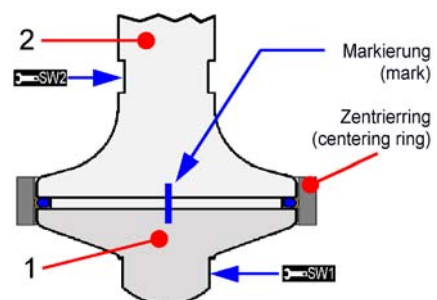

Fig. 5
- Screw together piston plate (1) and piston (2) manually to metallic stop position without sealing ring and carry out colour marking (Fig. 5 /Page 7).
- Once again screw off piston plate (1) from piston (2).
- Push sealing (D1) on piston (2) and manually screw the piston plates (1) into the pistons (2).
- For centring the seal (D1) on piston (1), the centering ring has to be placed as shown in Fig. 5 /Page 7.
- Stretch the spanner flat (SW1) with soft braces in bench vice and screw in piston (2) over spanner flat (SW2) until marking.